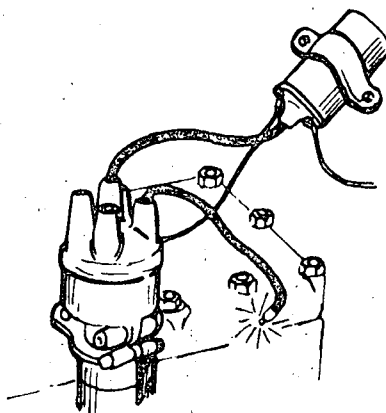

Fig. 2
- 2) The spark should jump with complete regularity, the prescribed distance (fig. 2).